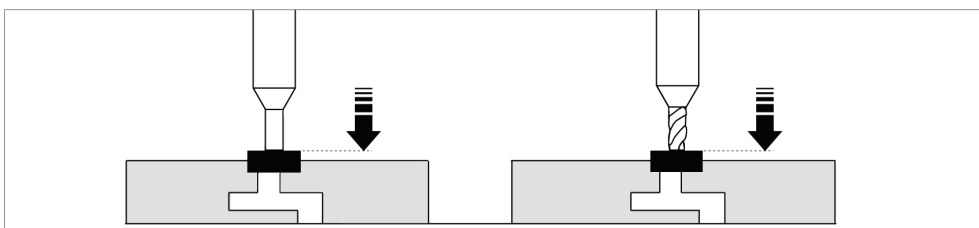

Fig. 13
- 5) Keeping the (I) lever downwards, turn the bigger middle ring nut (N) counter-clockwise until the cutter touches the top of the key in the right side clamp (Fig. 13).
- 7) Turn the upper ring nut (O) clockwise up until it is tight to cut laser (sidewinder) type keys.